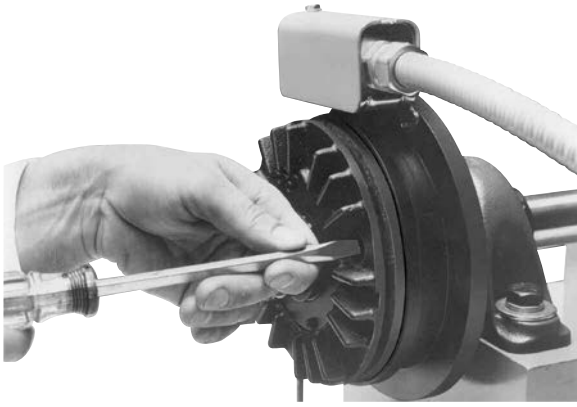

Figure 4
4. Remove the screws, which attach the friction material segments to the brake magnet or clutch rotor through the appropriate access holes in armature face. (See Illustration A and Figure 4)